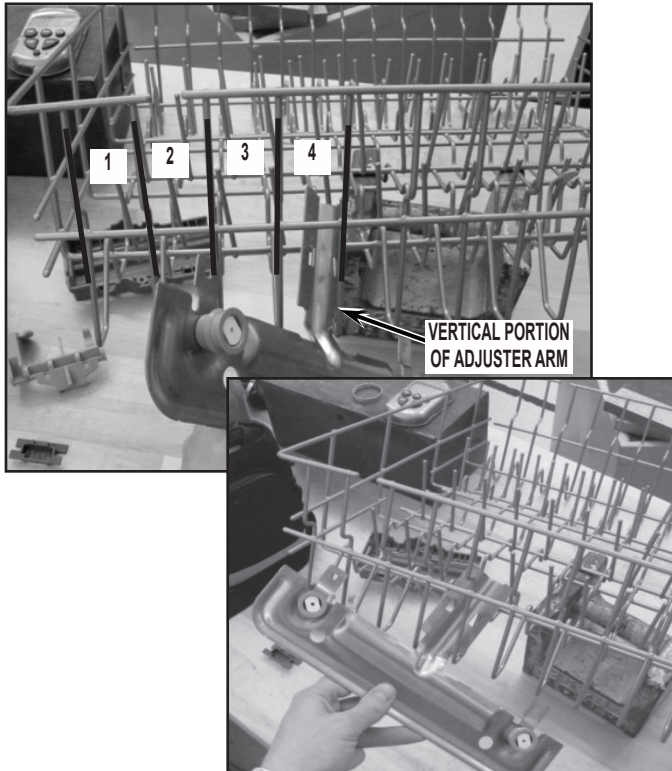

FIGURE 1
3. To replace with new adjuster, begin by sliding the vertical portion of the adjuster arm between the 4th set of vertical tines (from the back of the rack). The adjuster arm will have to be rotated slightly to fit between the tines. See *Figure 1*.